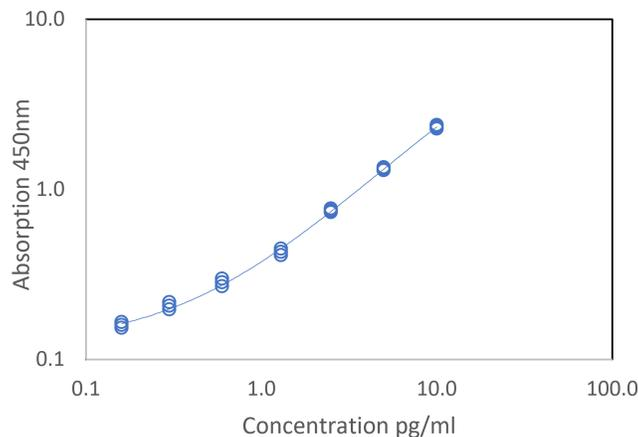

Fig. 10 Representative standard curve for human IFN γ ELISA. Human IFN γ was diluted in serial 2-fold steps in Sample Diluent
- A representative standard curve is shown in Figure 10. This curve cannot be used to derive test results. Each laboratory must prepare a standard curve for each group of microwell strips assayed.